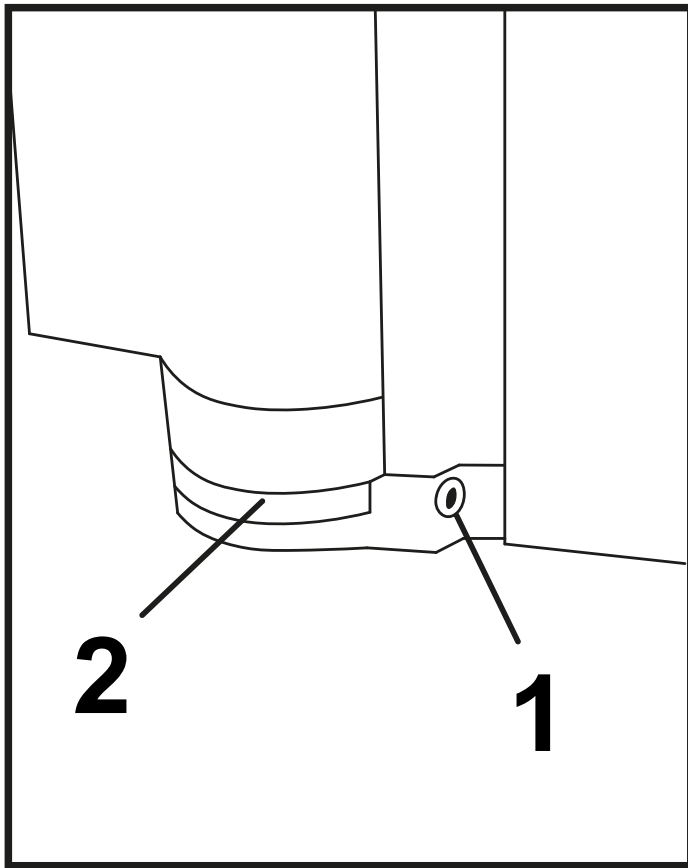

Figure 9
15. To adjust the mono hinge, loosen both mounting screws (1) on the washer by a few turns using the included Allen key. (Figure 9)
16. Move the glass (2) to the desired position where you want to secure the door.
17. Once the glass (2) is in the desired position, tighten the washer mounting screws (1).